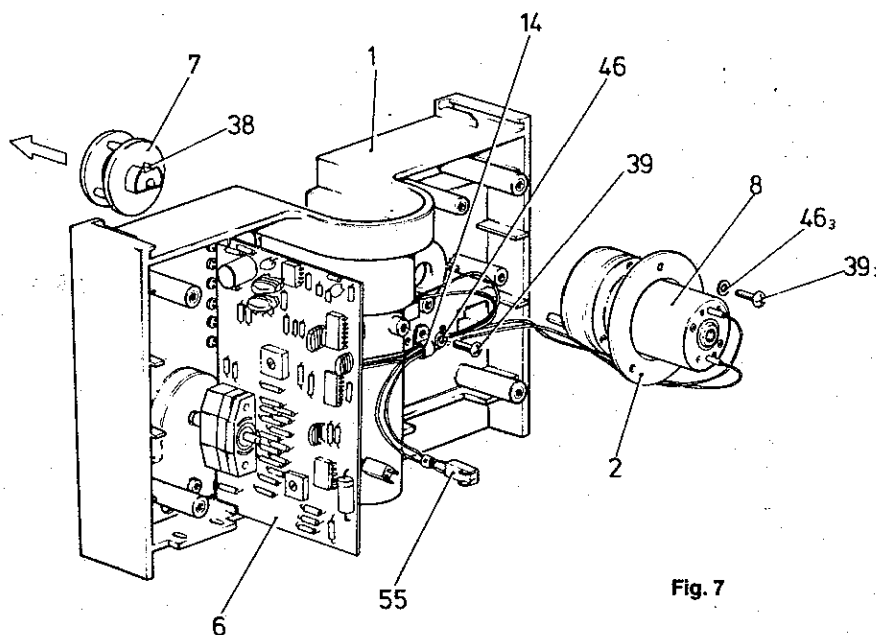

Fig. 7
Refer to Figure 7. Remove the rotor head (item 7) by pulling it in the direction of the arrow.
Refer to Figure 7. Locate the motor/gearbox assembly (item 8) through the hole in front housing (item 1). Ensure that the front bearing of the gearbox passes through the hole in the front housing.